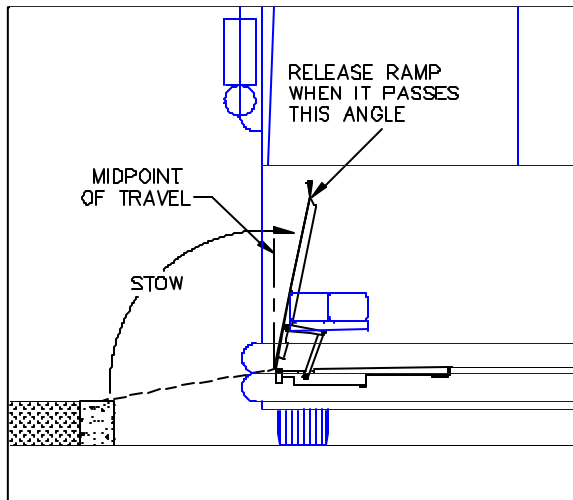

FIGURE 3-5: RAMP MIDPOINT DURING MANUAL STOW
- 3) Refer to **Figure 3-5**. Lift ramp and push it towards the stowed position. Release the ramp after it passes its travel midpoint and it will continue folding to the stowed position without assistance.